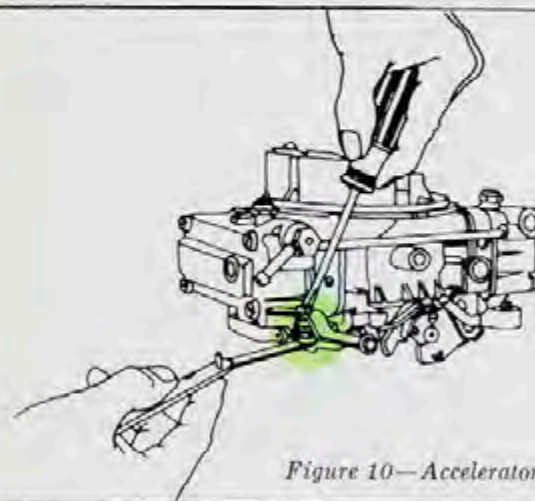

Figure 10—Accelerator Pump Adjustment
2. Block throttle lever in the wide-open position and hold the pump lever fully depressed (Figure 10).